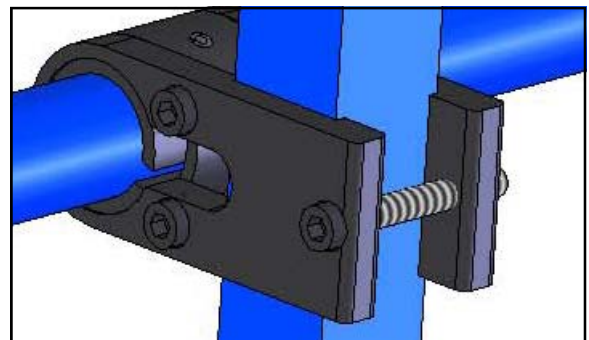
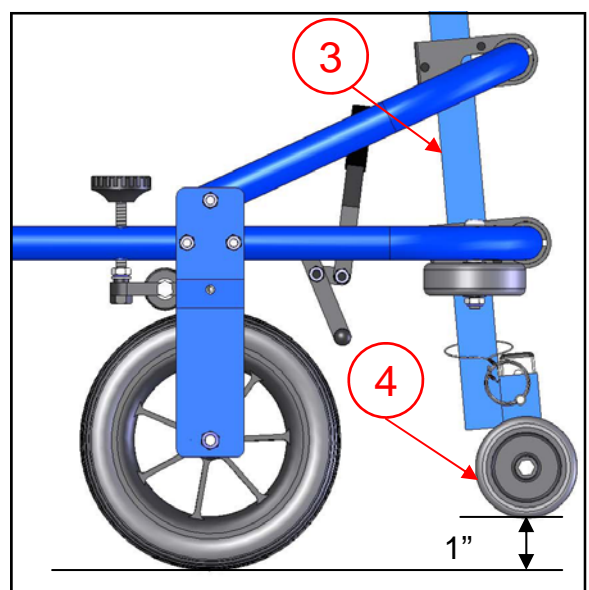

Figure 4B
Figure 4C
2. Loosen the rear two Allen screws on each of the 2 tube adjustment clamps (1). Figure 4B.
3. Remove the front Allen screws from each of the 2 tube adjustment clamps (2).
4. Slide the column adjustment tube (3) through the tube clamps.
6. Position the column adjustment tube (3) so that the anti-tipper wheel (4) is at least 1" from the ground. Figure 4C.